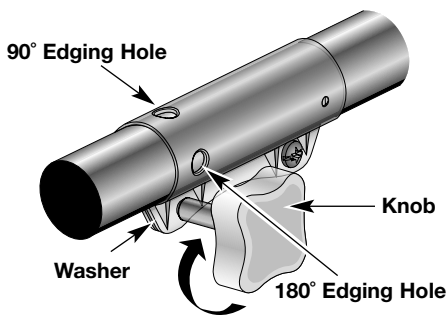

Fig. 14
3. Tighten the knob securely clockwise (Fig. 14).
Lock the release button in the 90° Edging Hole or the 180° Edging Hole in the Click-Link® (Fig. 14).
For edging with the cutting attachment on Model 725r lock the release button into the 90° edging hole or 180° edging hole (Fig. 14, Pg. 13).